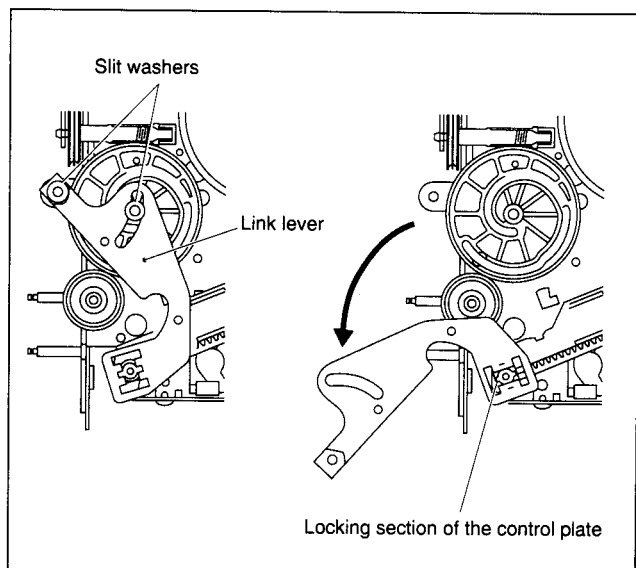

Fig. 2-2-25
- (3) Insert the link lever into the locking section of the control plate. (See Fig.2-2-25.)
- (4) Rotate the link lever clockwise so that it is installed on the shafts in the centre and on the left of the control cam.
- (5) Fasten the slit washers at these two points.